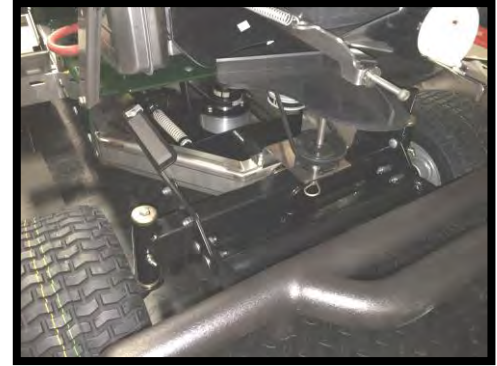

FIGURE 1: Front Hood Removed
- a. Around the axle (Remove the front hood) **(FIGURE 1)**